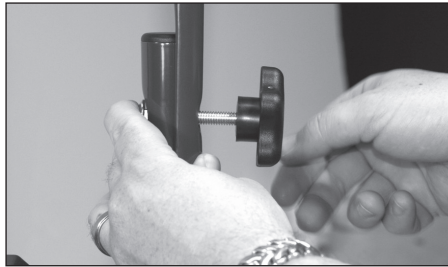

Figure 9 - Assemble handle
1. Slide the handle assembly over the lower legs of the cart base. Use the (supplied) star knob and bolts to secure the handle to the legs (See Figure 9).